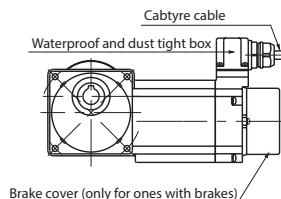

Figure 6-1
- **For a waterproof motor**, do not open the cap of a waterproof/dust-proof box (see Figure 6-1); otherwise, waterproof/dust-proof effects will be lost and electric shock, damage, and fire may result.